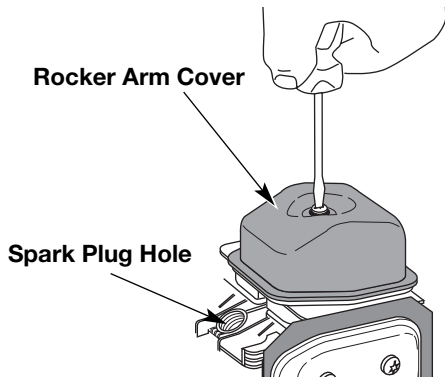

Fig. 37
6. Clean dirt from around the rocker arm cover. Remove the screw holding the rocker arm cover with a large flat blade screwdriver or Torx T-25 bit (Fig. 37). Remove the rocker arm cover and gasket.
- The piston is at the top of its travel while looking in the spark plug hole (Fig. 37)